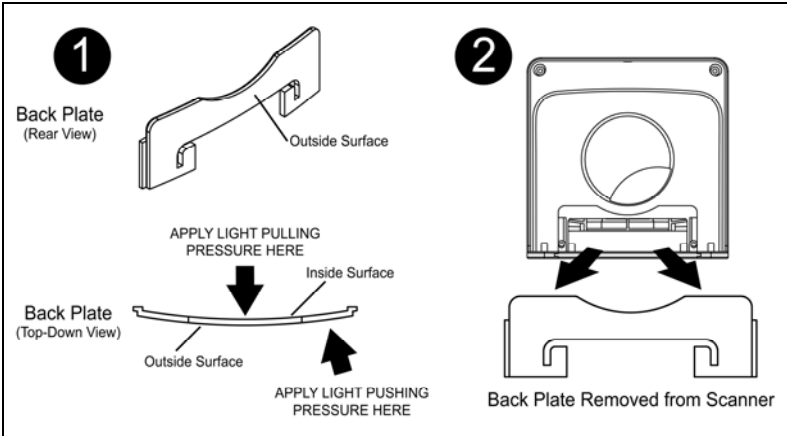

Figure 15. Cable Cover Removal
3. Remove the scanner's back plate from the rear side of the unit. Apply pressure to the points shown in *Figure 15* until the back plate unlatches from the scanner.